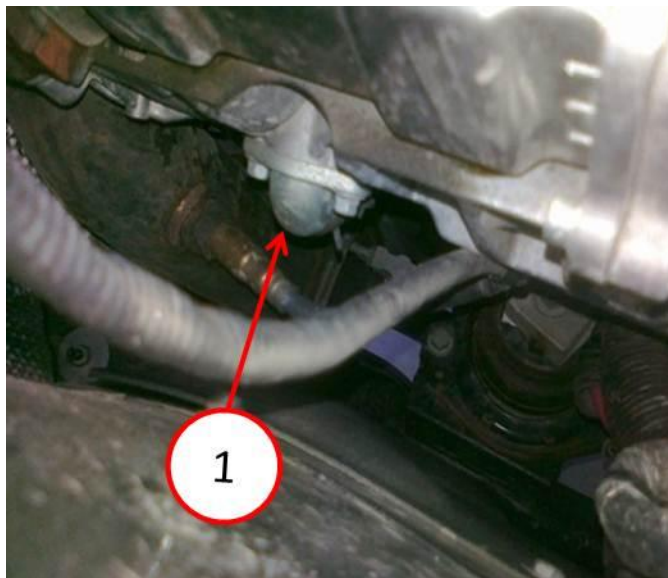

Fig. 5
11. Use hose clamp pliers and remove hose clamp at EGR cooler (Fig. 5).